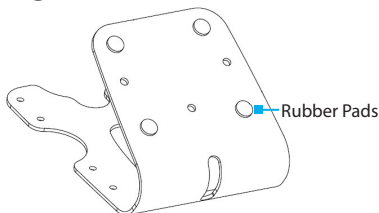

Figure 7
- Remove the **Adhesive Backing** from the **Rubber Pads** (x 4) and affix to the base of the **Angled Bracket**. (Figure 7)